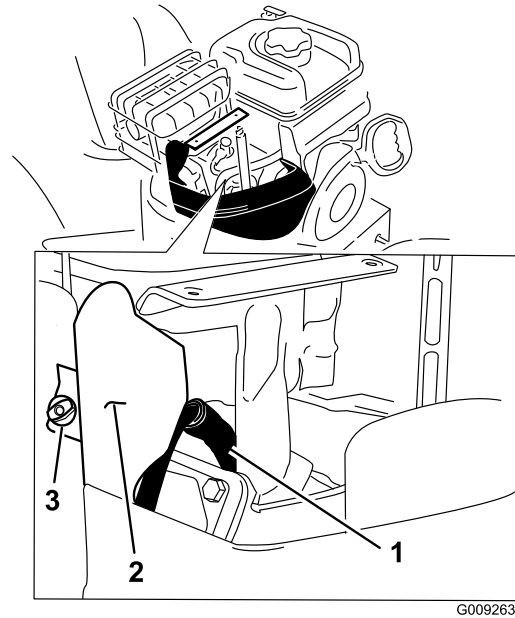

Figure 52
4. Remove the bracket thumb screw and the bracket (Figure 52).
5. Clean around the base of the spark plug (Figure 52).